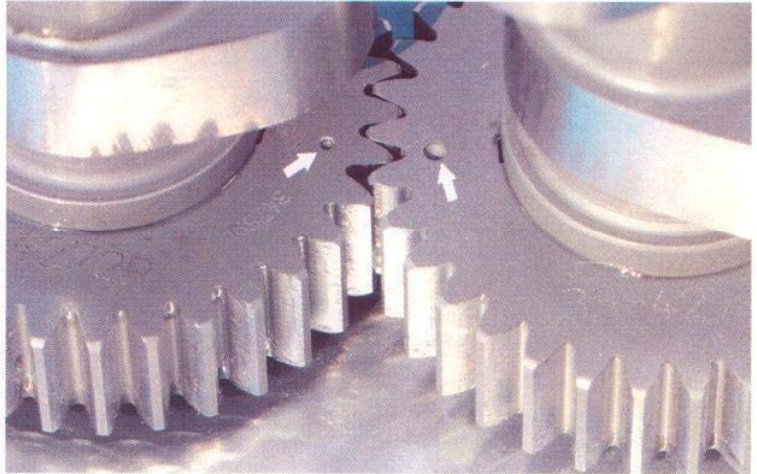

Figure 2
3. Make sure inner cam gear timing marks are lined up as in photo. (Figure 2)